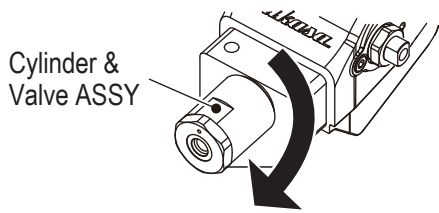

Fig.12
- c. Assemble the cylinder & valve assembly to the pump head. (Fig.12)